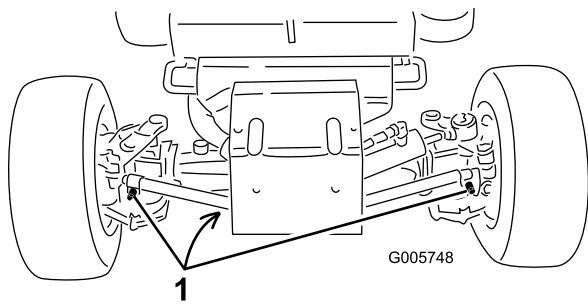

Figure 56
- Clean area around the drain plugs (Figure 56).